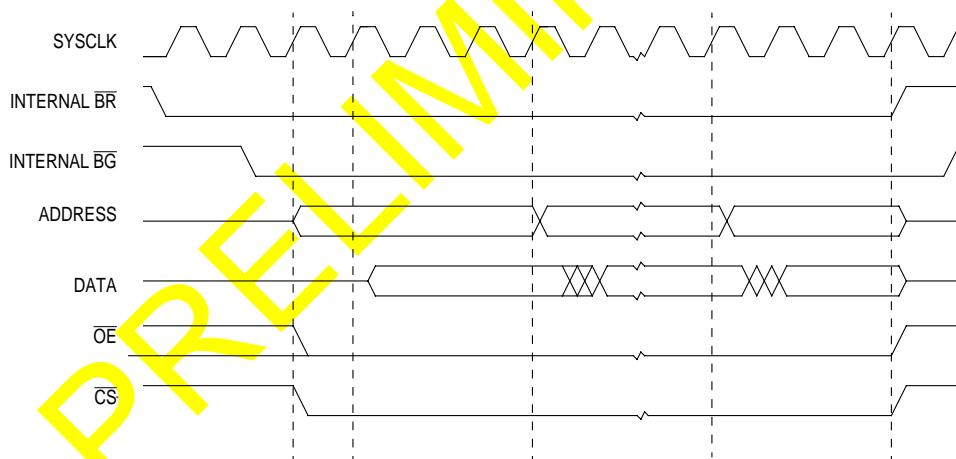
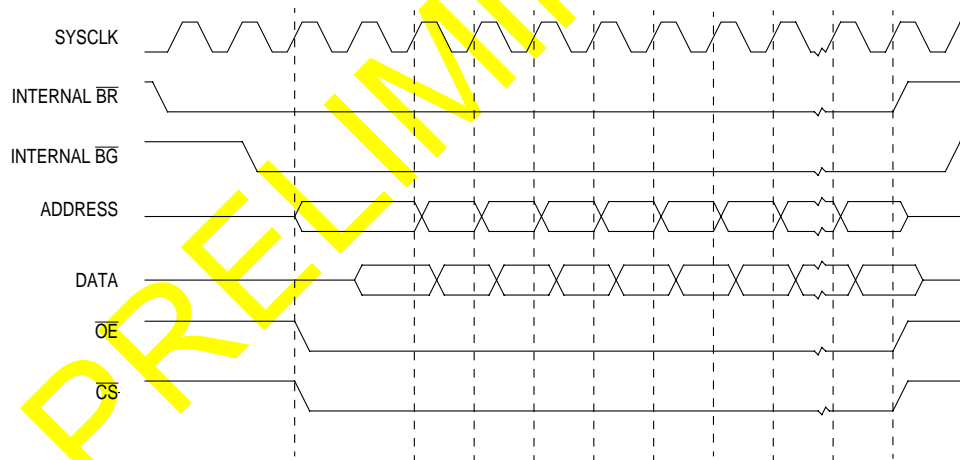

Figure 8-2. Three Clocks per LCD DMA Transfer (Two Wait States)
Figure 8-3. One Clock per DMA Transfer (0 Wait States)
The screen DMA controller periodically generates a bus request ( $\overline{BR}$ ) signal to the MC68EC000 core and when it receives a bus grant (BG) signal, it performs a 16- or 8-word memory burst to fill the line buffer. You can program the number of DMA clock cycles (1 to 16) per transfer to support systems with variable memory speed requirements. When the DMA transfer begins, one clock cycle is added to the first data word has one clock cycle added to the transfer and the number of clock cycles selected. As shown in Figure 8-2 and Figure 8-3, this gives the initial chip-select memory more time without generating a clock cycle penalty on subsequent data transfers of the line fill.
As shown in Figure 8-2 and Figure 8-3, data is efficiently fetched from memory. Each burst is limited to 8/16 words, which reduces the possible latency for other peripherals, such as the interrupt controller. For example, the average latency for LCDCLK = 5MHz with a 16-word burst is approximately 2.4 $\mu$ s.
**8.2.2.1 LCD DATA BUS SIGNALS.** The LD3–LD0 signals output bus transfers pixel data to the LCD panel for display. Data is arranged differently on the bus depending on the LCD data-width mode selected, as shown in Figure 8-3. System software can also program the output pixel data to be inverted. See **Section 8.6.2 LCD Polarity Configuration Register** for more information.